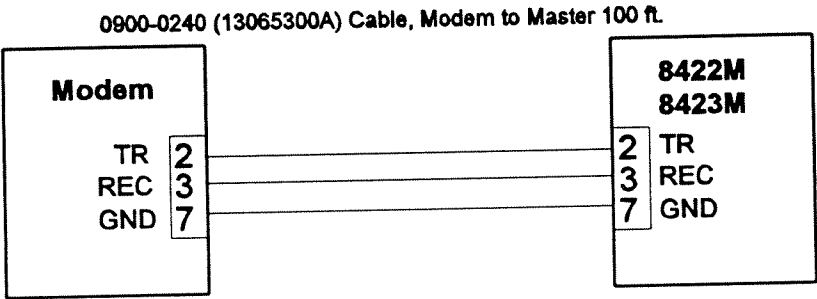

Figure 5.6 Master to Modem Wiring
5.7 SINGLE MASTER SCALE TO MODEM WIRING (Figure 5.6)